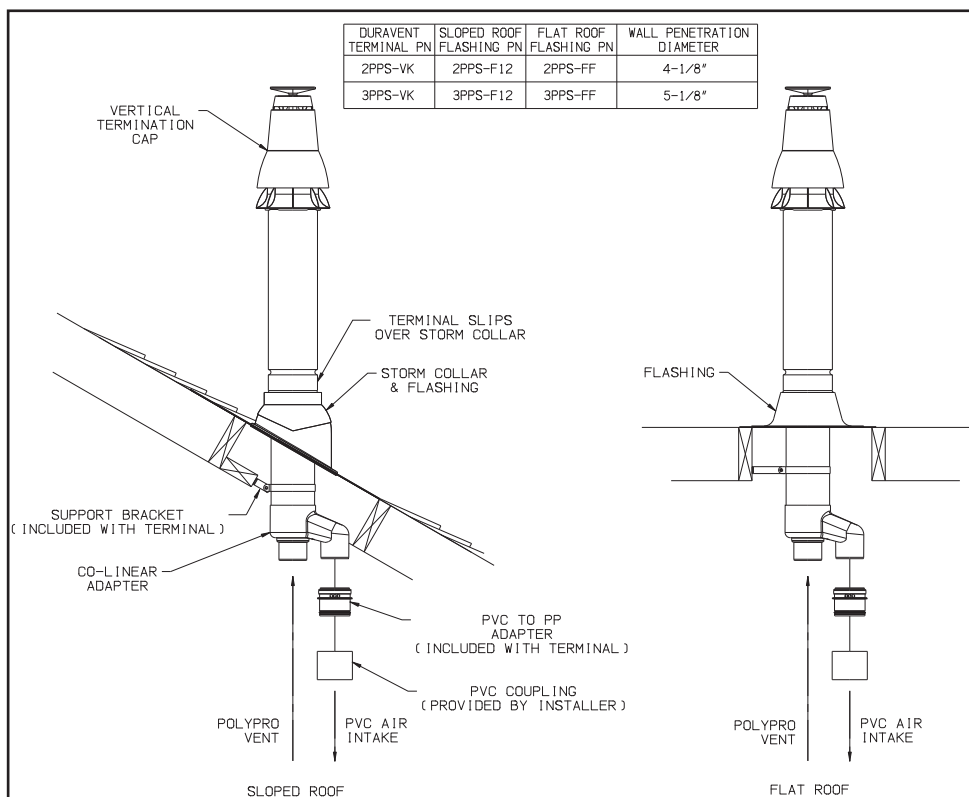

Figure 7.39: Installation of DuraVent PolyPro Concentric Terminal Through Roof
7. Vertical Installations using PolyPro Vertical Concentric Termination Kit #2PPS-VK or #3PPS-VK (Figure 7.39):
- b. Use a roof flashing and storm collar to prevent moisture from entering the building. See Figure 7.39 for the model number of the flashing to be used depending on the type of roof. Seal the roof flashing to the roof using generally accepted practice for the type of roof on the installation.